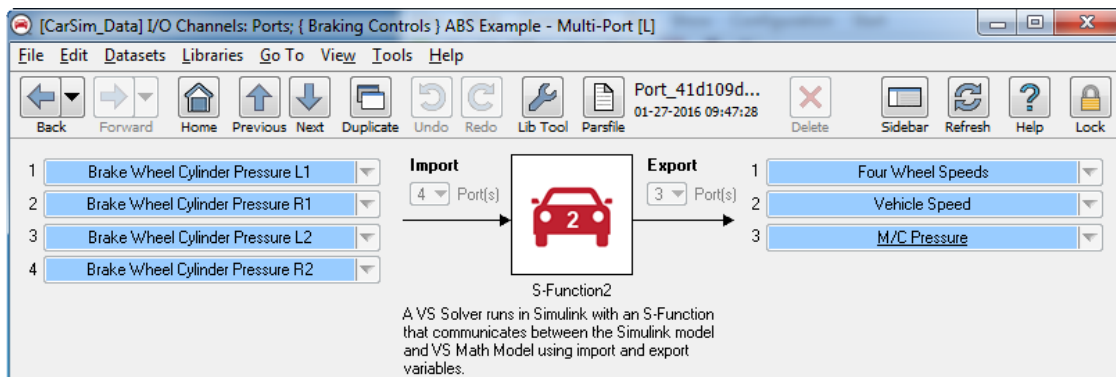

Figure 16. Import and Export channels.
6. Click this **ABS Example -Multi Port** blue link and you will see import and export channels setup as shown in Figure 16.